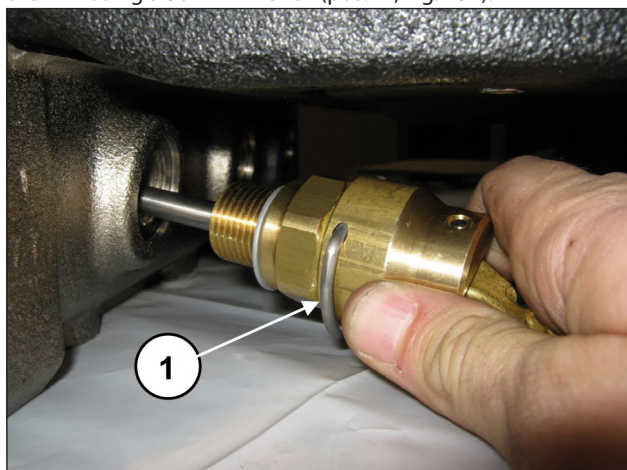
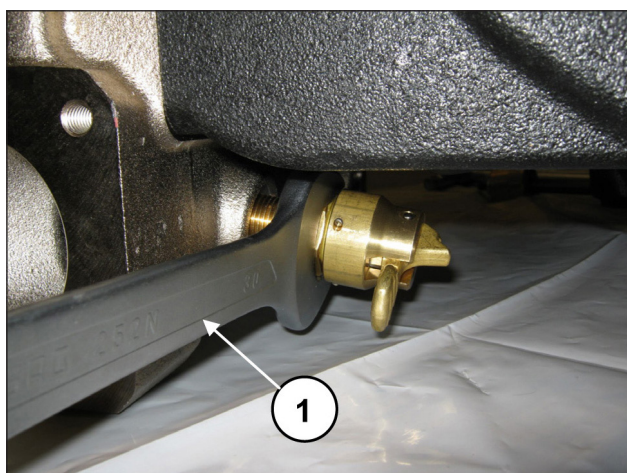

Fig. 150
Fig. 151
Apply the valve opening devices (pos. ①, Fig. 150) and screw them in using a 30 mm wrench (pos. ①, Fig. 151).